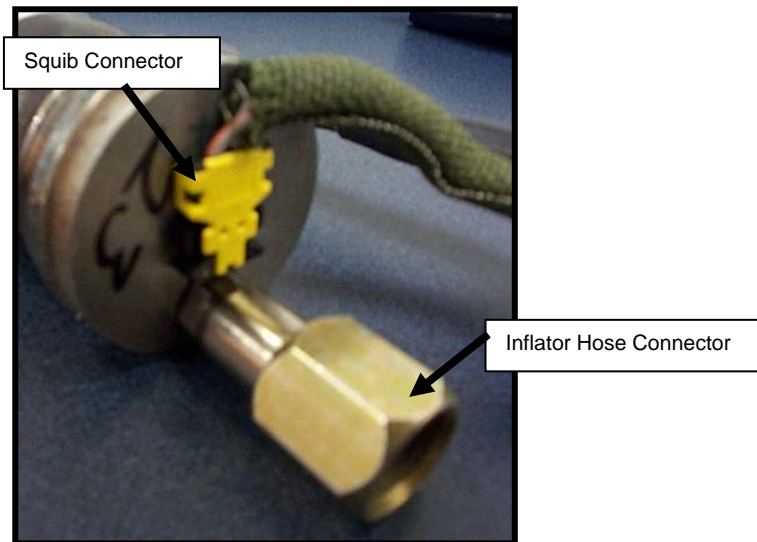

Figure 4 – Electrical and Hose Connectors of Inflator Assembly
3. Remove squib connector from the **Inflator** (40) by squeezing both sides of the connector and gently pulling away from the Inflator (Figure 4).